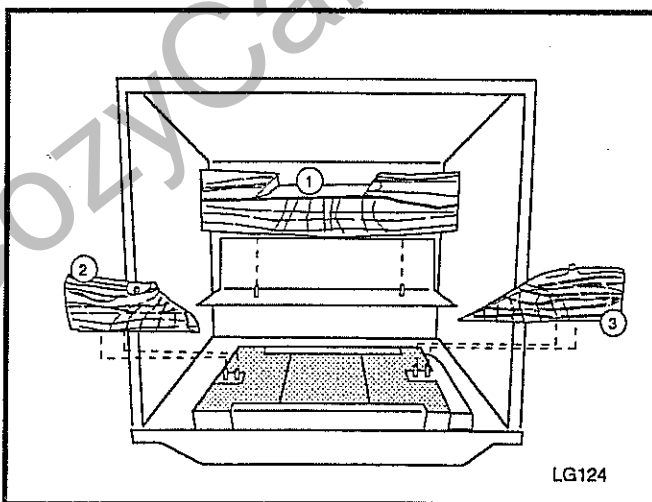

Fig. 57 Install the back, left and right logs.
2. Install the Rear Log (1) by engaging it with the pins on the sheet metal shelf at the back of the firebox. (Fig. 57)
3. Install the Left and Right Middle logs (2 & 3) by engaging holes on their bottoms with pins on the burner brackets. (Fig. 57)